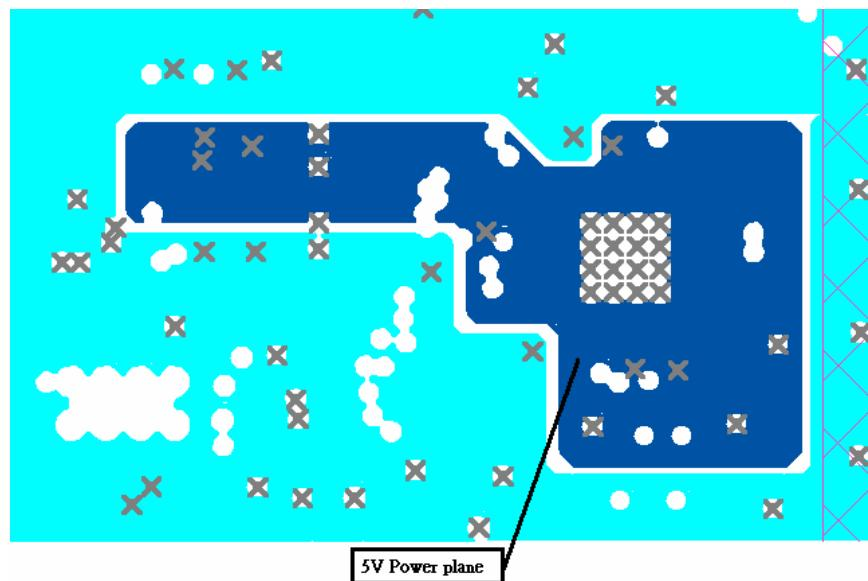

Fig. 7 AFE layout (layer 3)
(1) We recommend 5V power plane layer 3 and circle with AFE GND pad consistently, as show in fig.7